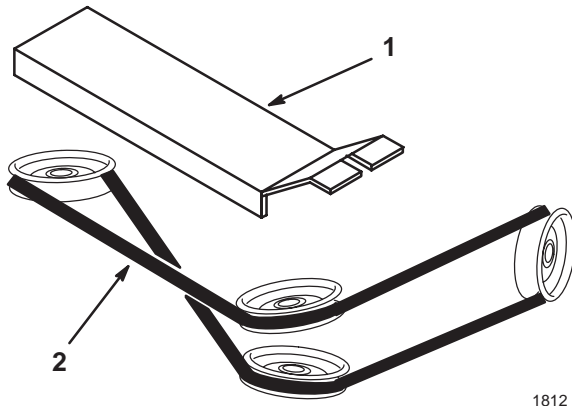

Figure 18
1. Remove the belt covers and note the belt routing (Fig. 18).
2. Remove the worn belt (Fig. 18).
3. Install the new belt and belt covers as outlined under Installing the Blower on page 7 (Fig. 18).